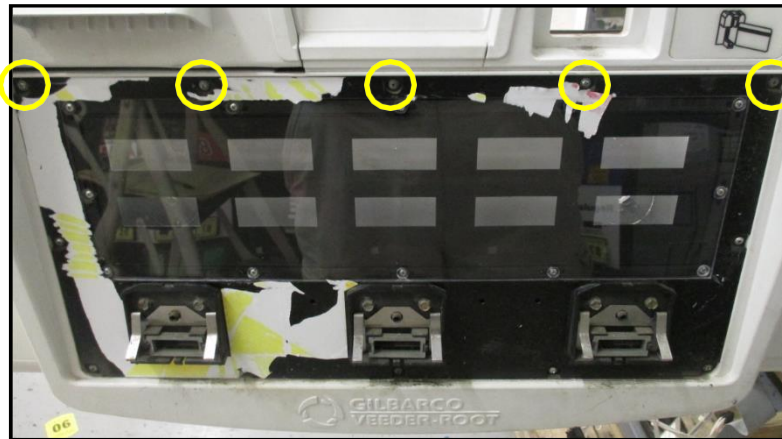

Fig 1.13 – Location of fastening screws on Product ID Plexi-Bezel
15. Remove and discard the top five fastening screws on the Product ID Plexi-Bezel on the front of the Dispenser Door. (Fig 1.13)